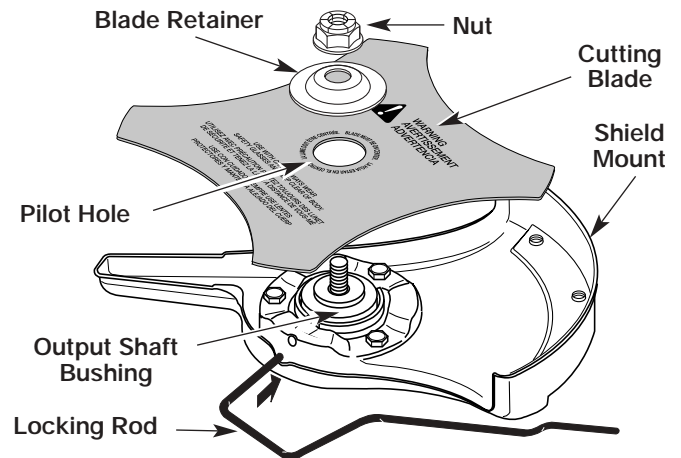

Fig. 16
1. Place the cutting blade on the output shaft bushing (Fig. 16).